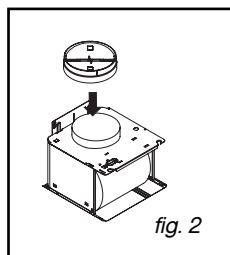

fig. 2
(fig. 2)
– Hang the suction hood on the two screws (fig. 2).
– Mount the back-flow valve near the motor outlet (fig. 2). This back-flow valve makes it possible to block the entry of air from the outside.
– Using the two screws (fig. 2), attach the plastic smoke deflector against the wall, flush with the ceiling for support. Be careful to centre the deflector in relation to the vertical line drawn on the wall (fig. 2).